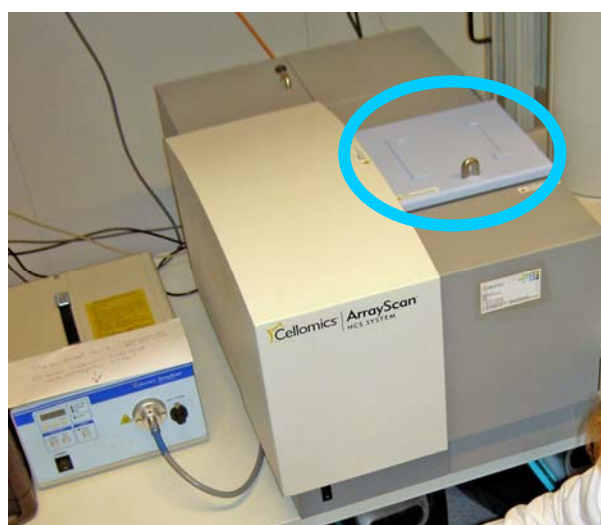

Figure 4. Lid of the scanning unit
3. Inserting the plate into ArrayScan instrument. In the main menu, select Tools/Maintenance/Move to load position. Open the blue lid on top of the ArrayScan instrument by gently pulling the small silver handle up (see Fig. 4). Remove the lid of the 96-well plate and insert the plate on the stage (use the flashlight to see better). Make sure that A1 well is in the top left corner! The plate will feel loose but the instrument will secure it once you close the lid -just make sure that the plate is level.